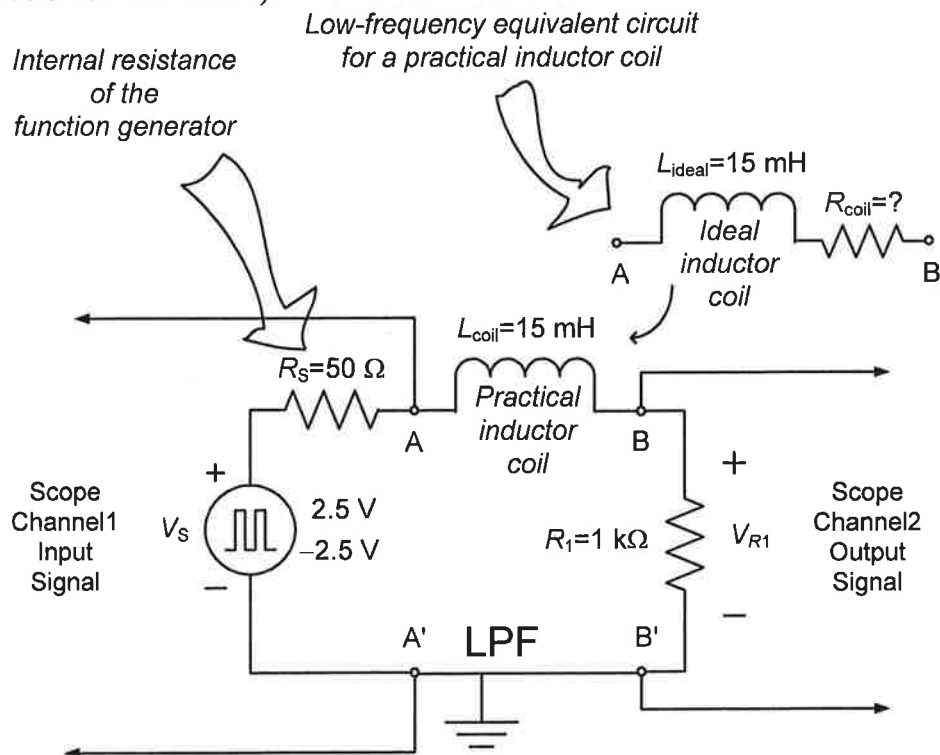

Figure 1. First-order  $RL$  circuit connected like a Low-Pass Filter (LPF). (Note that terminals A' and B' are the same.)
**Pre-lab Assignment 1.a:** A first-order inductive circuit is excited by a periodic pulse train as shown in Fig. 1. The values of the elements are given by  $R_1=1\text{ k}\Omega$  and  $L_{\text{coil}}=15\text{ mH}$  respectively. Assuming both the source and the inductor to be ideal (i.e.,  $R_S = 0$  and  $R_{\text{coil}} = 0$ ), calculate the time constant (designate it with  $\tau_{\text{pre-lab}}$  or  $\tau_p$ ) of this circuit. Approximately how long does it take for the inductor of this circuit to fully charge or discharge under pulse excitations? (Fully charge or discharge means the time it takes for the inductor current to reach approximately 99% of its final value.)
**Lab Experiment 1.a:** Construct the first-order  $RL$  circuit shown in Fig. 1 using  $R_1=1\text{ k}\Omega$  and  $L_{\text{coil}}=15\text{ mH}$ . Do the following:
- Using the digital  $LCR$  meter, measure and record the actual values of  $R_1$  and  $L_{\text{coil}}$  you use to build your circuit. Note that a practical inductor coil is not an ideal inductor. For low-frequency applications, a practical inductor can be represented in terms of an equivalent circuit model which consists of an ideal inductor with value  $L_{\text{ideal}}=15\text{ mH}$  in series with the internal resistance  $R_{\text{coil}}$  of the inductor (see Fig. 1). Using the  $LCR$  meter, measure and record the internal resistance,  $R_{\text{coil}}$ , of the inductor coil.